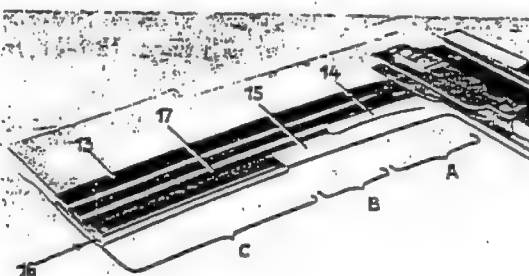

Fig. 78-1/9
Remove the adhesive tape and detach the glued headlining from the frame and cut it in such a way that it only goes as far as the trough of the corrugation (17). Re-attach the headlining (see situation B in Fig. 78-1/9).